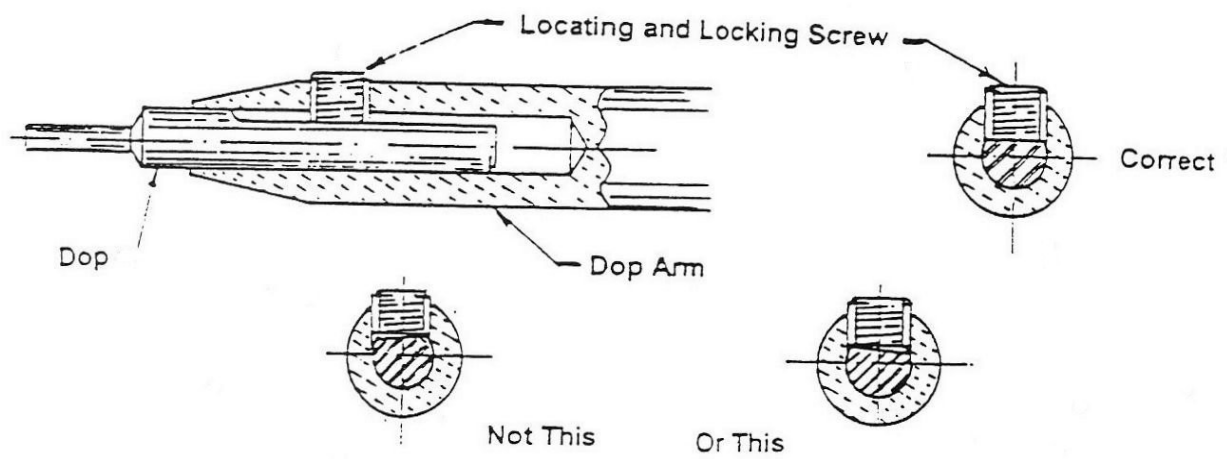

Fig. 8
21. **DOPS** – These are made from centreless ground brass. They are in flat, cove and Vee form. A flat is milled along the side for locating and locking in the dop arm and the transfer jig. A 45° angle dop, a “D” dop and a large flat top dop are also supplied. Care must be taken to ensure the dops are located correctly in the dop arm “Quill” and the transfer block. **Refer figures 8 & 10.**